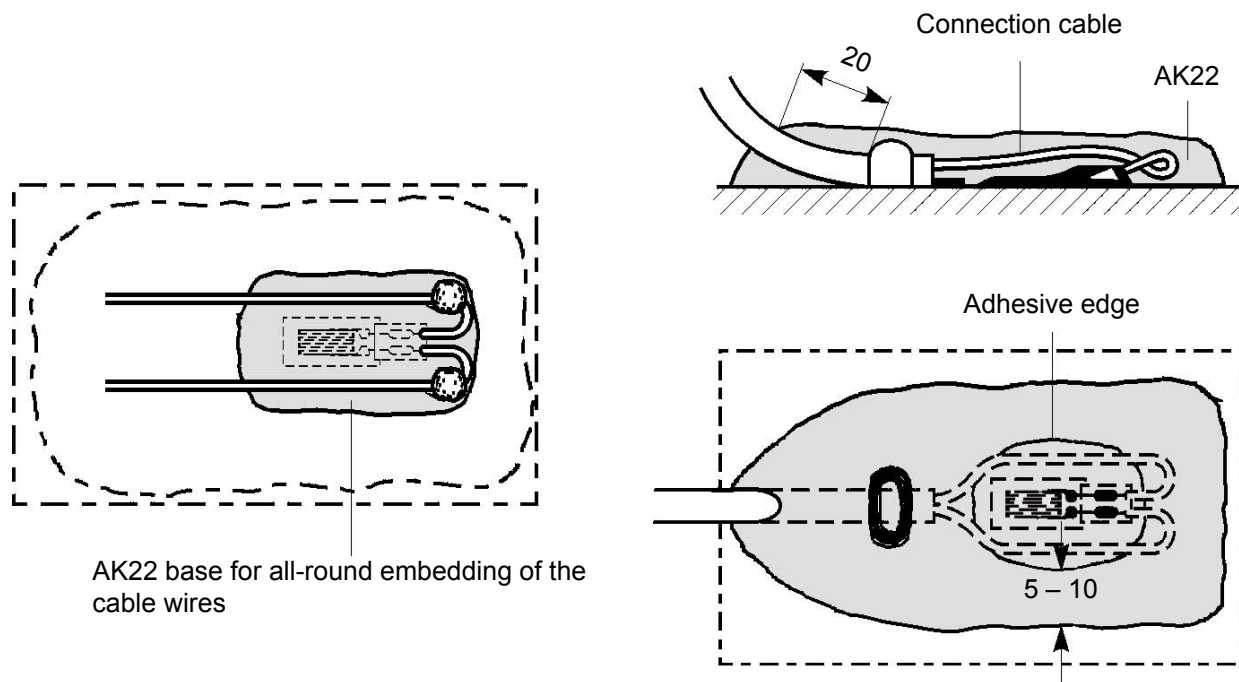

Fig. 5-1: Measuring point with protective cover
- Cable entries must be very carefully sealed. The covering agent must surround the wire ends on all sides, including from underneath, to ensure that no channels or capillaries form through which moisture could penetrate inside the cover. Embed cable wires individually in the covering agent, in the case of multi-core cables, and cover a part of the cable sheath as well with the covering agent (Fig. 5-1 on Page 55). In critical ambient conditions, roughen the cable insulation first and degrease it with chemically pure solvent.